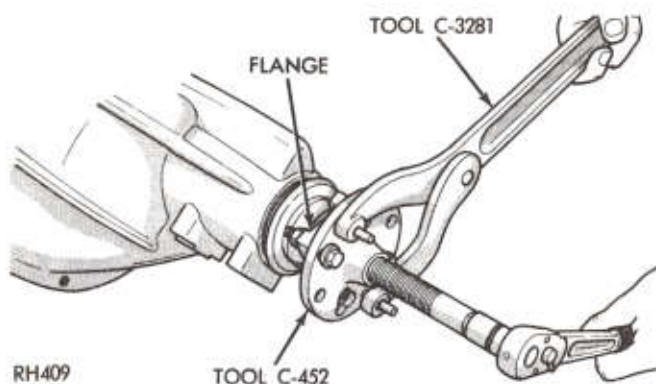
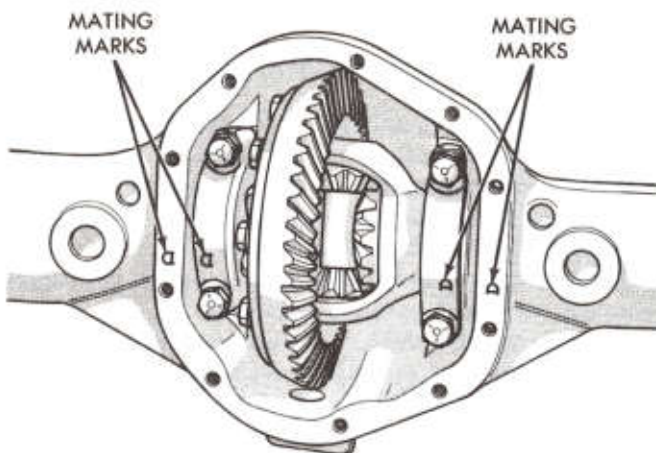

Fig. 3—Removing Companion Flange (Typical)
Fig. 4—Marks on Bearing Caps and Carrier
(5) Remove companion flange with Tool C-452 (Fig. 3).
(6) Remove drive pinion oil seal assembly.
(7) Remove differential bearing caps. Note matching marks on carrier and bearing caps. (Fig. 4).